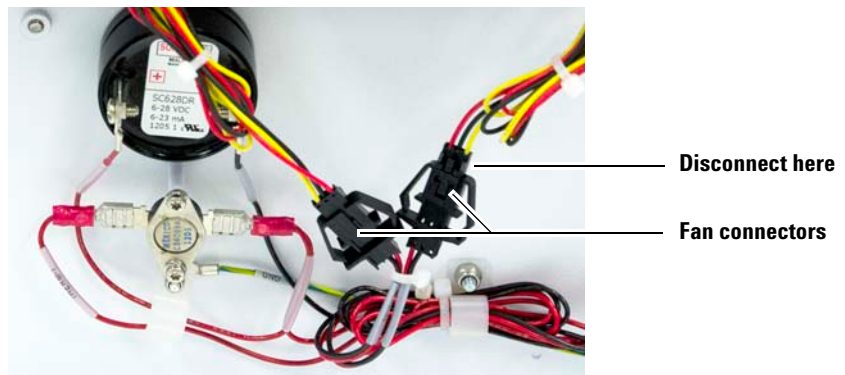

Figure 6 Disconnecting the fans
- 2 Disconnect the fan cable at the desired fan connector of the wiring harness (Figure 6).